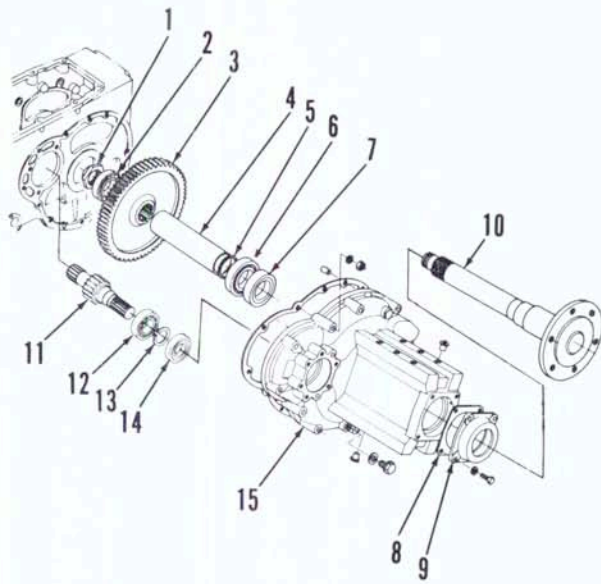

Fig. 137—Exploded view of final drive assembly used on Model L285.
102. OVERHAUL. To disassemble final drive assembly, secure axle shaft (10 - Fig. 137) and remove nut (1). Remove bearing (2) and bull gear (3). Remove cap screws securing seal retainer (9), then tap axle shaft out of axle housing.